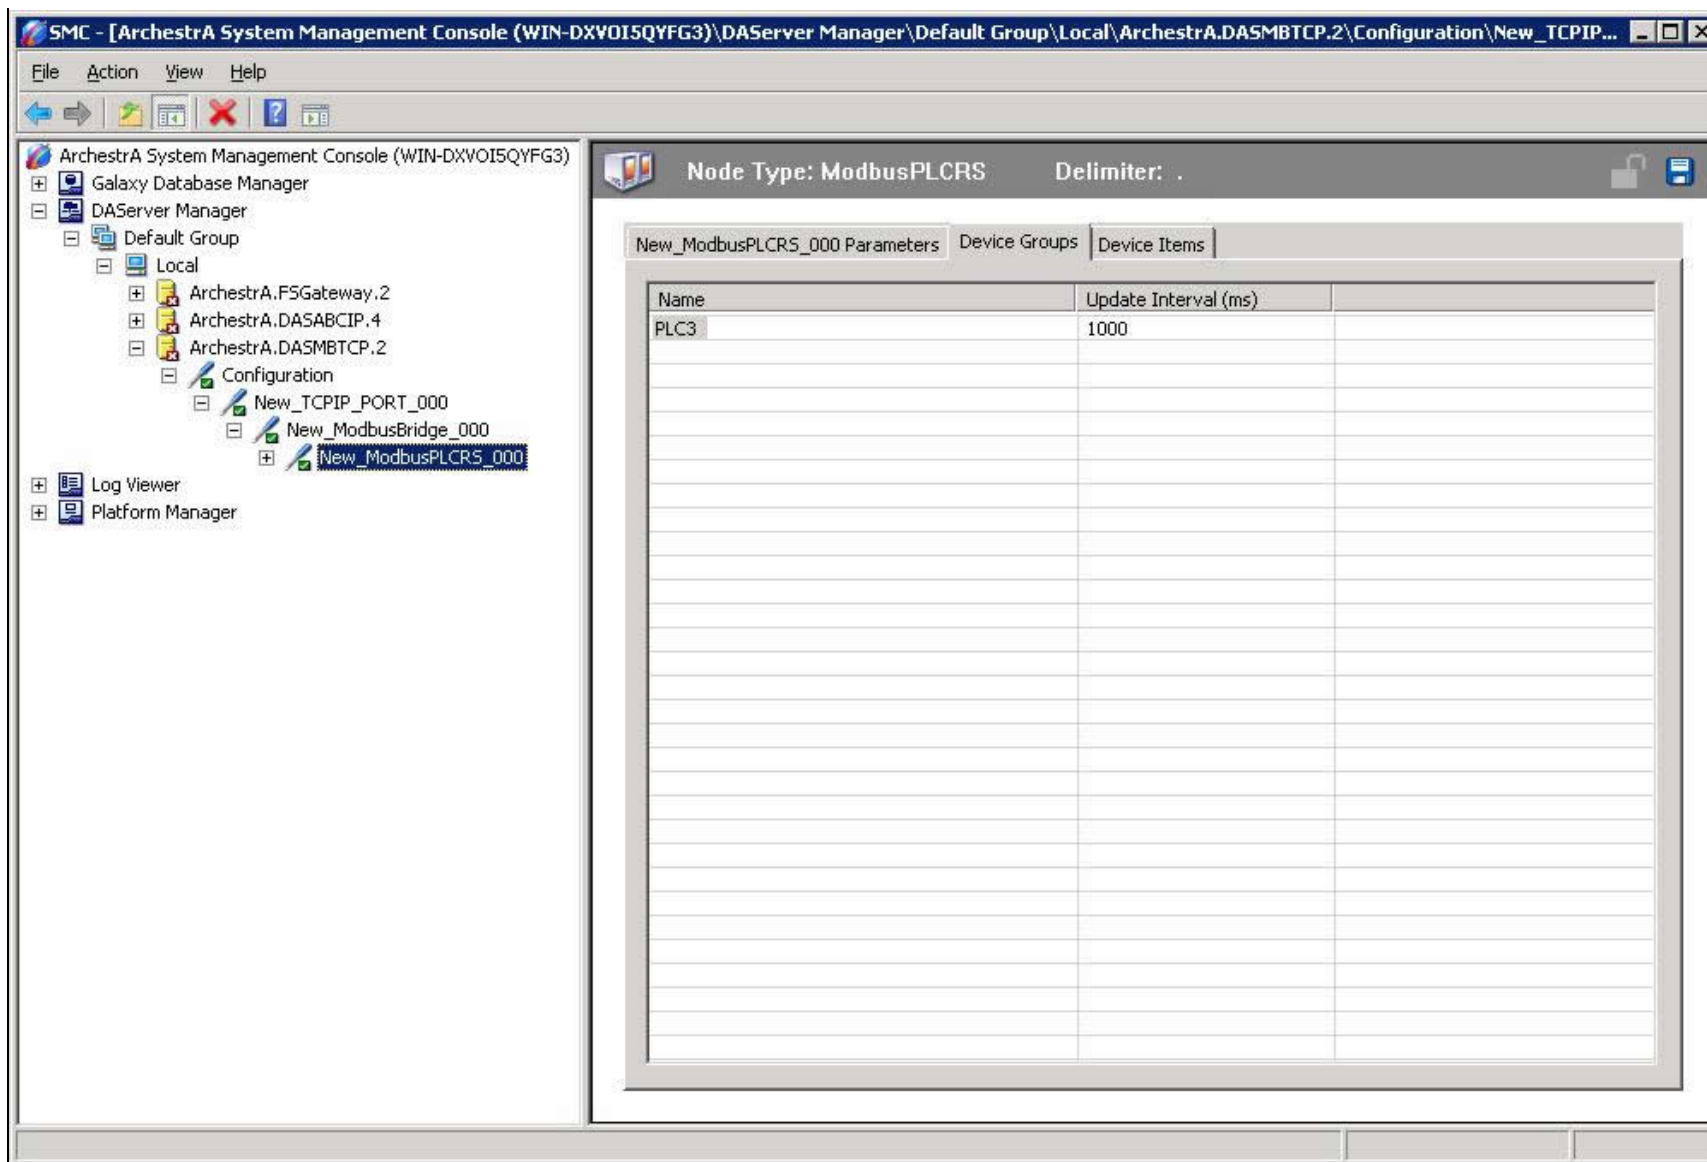

FIGURE 5: RENAME THE TOPIC
3. Change **Topic_0** to whatever you want by right-clicking on it and clicking **Rename**. In the following figure, the Topic is called **PLC3** (Figure 5 below):
5. For the topic name, type the name of the topic you renamed in the **Device Groups** tab field (Figure 5, above) of the MBTCP DAServer.